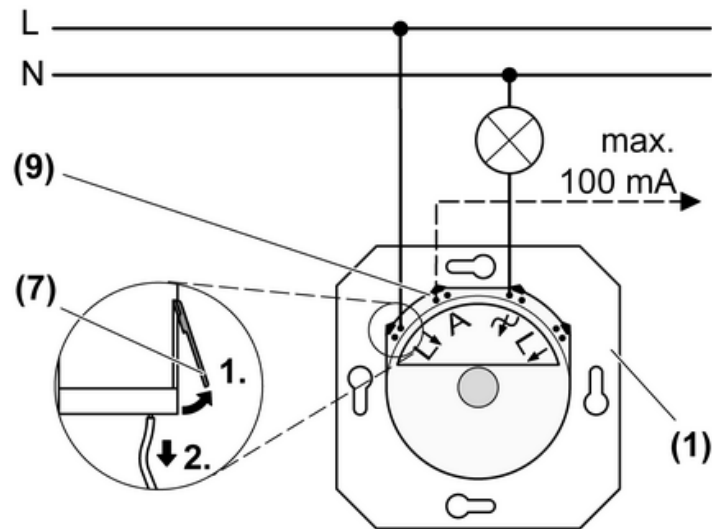
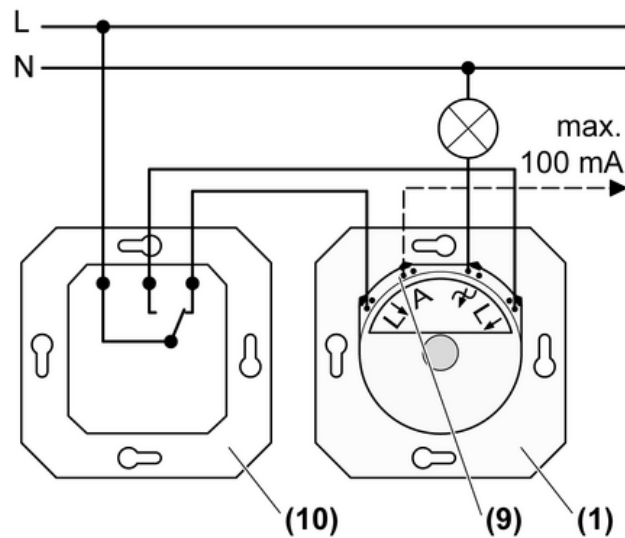

Figure 2: Connection diagram
Figure 3: Changeover switch
- Control output **A** (9) (figure 2) to output the switching state of the device for automatic power disconnection or relay
- Connect the dimmer (1) according to the connection diagram (figure 2). Alternatively, install with a changeover switch (10) (figure 3).
- ⓘ Pull the connecting cable out of the push terminal (7).